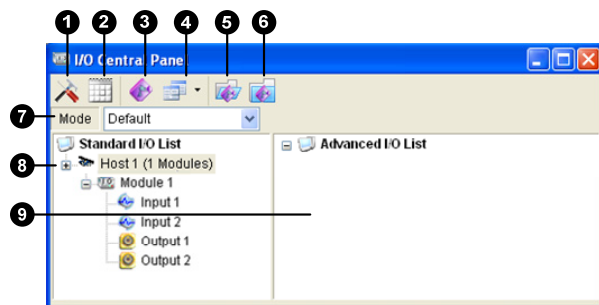

Figure 4-62
1. Right-click on **Advanced I/O List** (No.9, Figure 4-62), and then select **Add A Group**. This dialog box appears.
[Display Setting] You can define the nature of I/O devices by colors. Note that the setting only affects the **Detail** style of the Advanced I/O List (No. 4, Figure 4-62).
On the panel toolbar, click the **Configure** button (No.1, Figure 4-62) and select **Panel Setting**. This dialog box appears.
You can view the connection status of the hosts. On the panel toolbar, click the **Configure** button (No.1, Figure 4-62) and select **View Notification**.
1. Click the **Mode** drop-down list (No. 7, Figure 4-62), and select **More Edit**. This dialog box appears.
1. On the panel toolbar, click the **Configure** button (No.1, Figure 4-62), and select **Schedule Setting**. This dialog box appears.
4. To start the mode schedule, click the **Mode Schedule** button (No. 2, Figure 4-62), and then select **Mode Schedule Start**.
- To open the Quick Link window, click the **Toggle Quick Link** button. (No. 3, Figure 4-62).